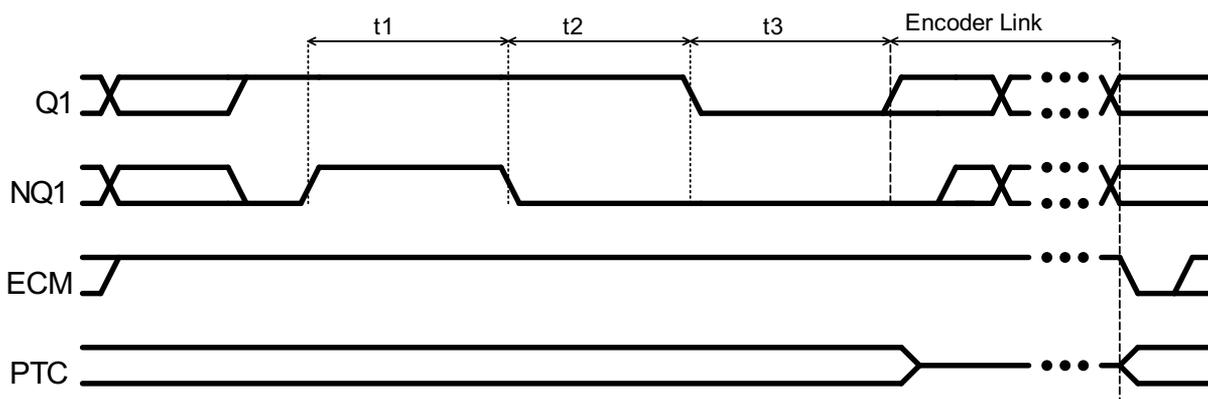

Figure 22: Time diagram of the *Encoder Link Sequence*
An example of this sequence is presented in figure 22. The sequence is divided into three time intervals or steps: t_1 , t_2 and t_3 :
- In the second step, both pins Q1/NQ1 must be released. They will go back to complementary state (in *BiSS bus loopback mode* Q1 must be pulled hi and NQ1 lo externally). In the example of figure 22, input X1 is high and therefore Q1 goes high and NQ1 low when released. Q1/NQ1 must be kept in complementary state during an amount of time as close as possible to t_1 . The maximum allowed time tolerance is specified by parameter Δt_s , (cf. *Electrical Characteristics no. 804*).